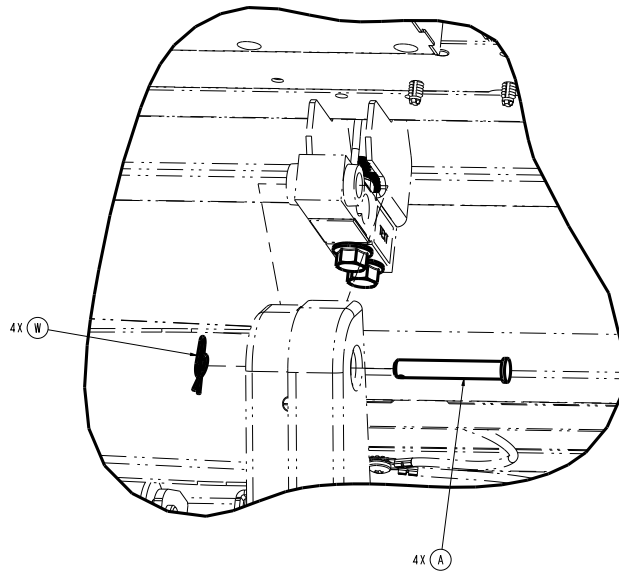

Figure 47 – Replacing the load cell
8. Using needle nose pliers, remove the rue clip (W) from the clevis pin (A) that secures the load cell to the lift mechanism (Figure 47). Save the rue clip and clevis pin.
10. Using needle nose pliers, remove the rue clip (W) from the clevis pin (A) that secures the load cell to the lift mechanism (Figure 47). Save the rue clip and clevis pin.